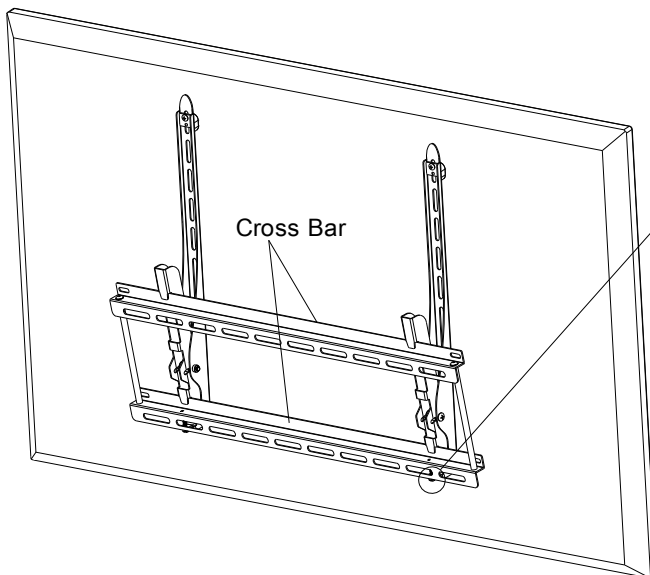

figure 4
**Caution:** Some flat panels are heavy: two strong people are required; lift and position carefully. Lift TV with interface arms onto the cross bar of the wall bracket (AA), and then lower into place until the hooks are fully seated on the cross bar of the wall bracket assembly. Lock the screws to prevent the tilting arm assembly falling off the wall bracket, as shown in figure 4.